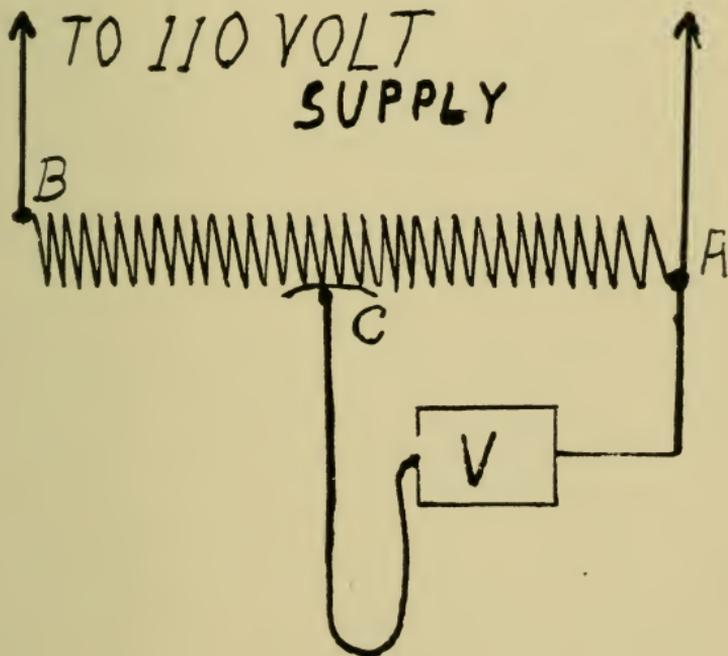
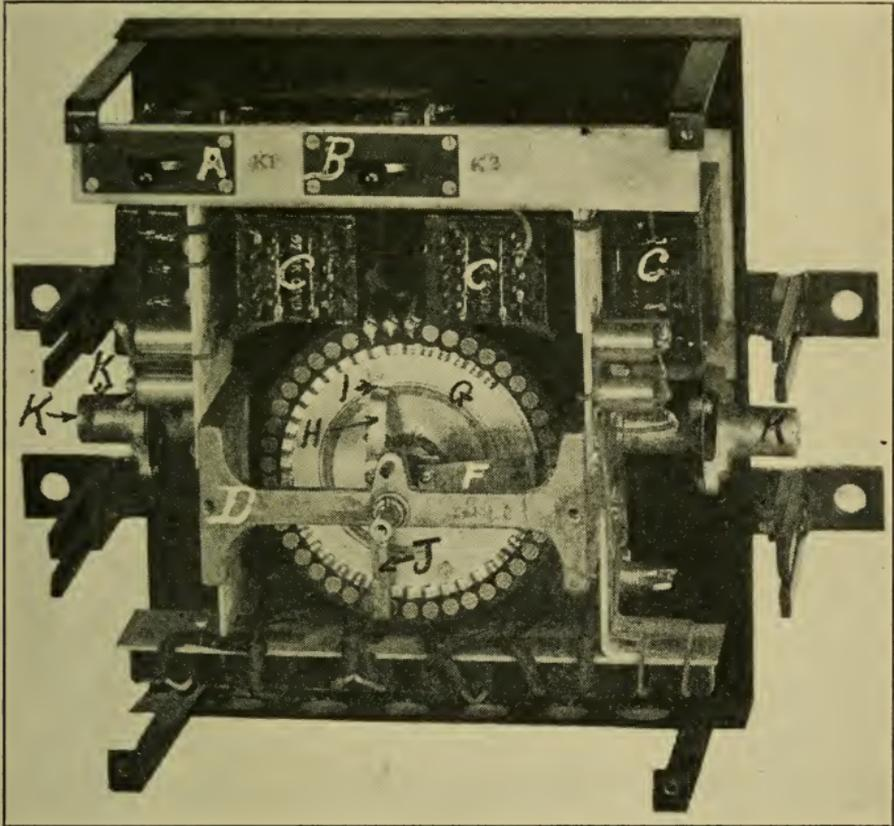

Figure 406.
Figure 408.
To understand the action of the circuit shown in Fig. 406 we must first consider the arrangement. We have here fixed resistance A B connected across a 110-volt supply circuit. There is also a voltmeter, V, one terminal of which connects to resistance at A; the other to sliding contact C.
Now if for the 110-volt supply indicated in Fig. 406 we substitute the terminals of the motion picture projector film pick-up amplifier circuit, and if in place of voltmeter V we have the input terminals of the main amplifier, it is evident that by altering the position of C we will be able to supply to the main amplifier with all or with any fraction we may please of the power available from the pick-up, and naturally the volume obtained from the horns will be in exact proportion to the power
That, gentlemen, fully explains the principle upon which the fader operates, though of course Fig. 406 does not illustrate the actual mechanical means by which the fader operates. That will be explained further on.
Some may wonder why a variable resistance in series between the pick-up amplifier and the main amplifier could not be used. In other words, a resistance connecting at B, but not at A. The answer is that the resistance would have to be enormously great in order to bring the power anywhere near zero, whereas by the arrangement shown in Fig. 406, all that is necessary is to bring C to A to stop all current flow in the main amplifier circuit. Moreover, it is a law in the design of electrical equipment of this kind, that as a general rule it works best when connected to a resistance or load similar to its own internal characteristics.
Of course a resistance coil and slider such as is shown in Fig. 406 is not really used. Such an arrangement, while convenient for the purpose of illustrating the operating principle, would be a very poor mechanical device for practical use. In practice the same thing is accomplished in a very much better way by arranging thirty (30) short coils of resistance wire in a circle around a metal disc (G), which represents one side of the circuit, as shown in Fig. 408.
Examining Fig. 408, plate or disc G is connected to one side of the projector pick-up amplifier circuit. It therefore is charged by that circuit with its full voltage. The row of round contact buttons surrounding this disc rest on top of and each one is connected to one of the small resistance coils which, taken as a whole, represent resistance A B, Fig. 406. Arm J receives the current from disc G through sliding contact I, whence it passes through arms H and J to the resistance coil contact, the amount of resistance in series with the pick-up circuit at the moment being dependent upon the position of arm J. Arms H and J correspond and act exactly as would slider C, Fig. 406, insofar as electrical effect be concerned.
Switch A, Fig. 408, is to cut out the fader in case of trouble in it, and B is for use when three sound projectors are equipped for sound. The position of the fader as shown in Fig. 408 is zero. In other words, arm J is at the dividing line between the resistance coils connected with projectors No. 1 and No. 2.